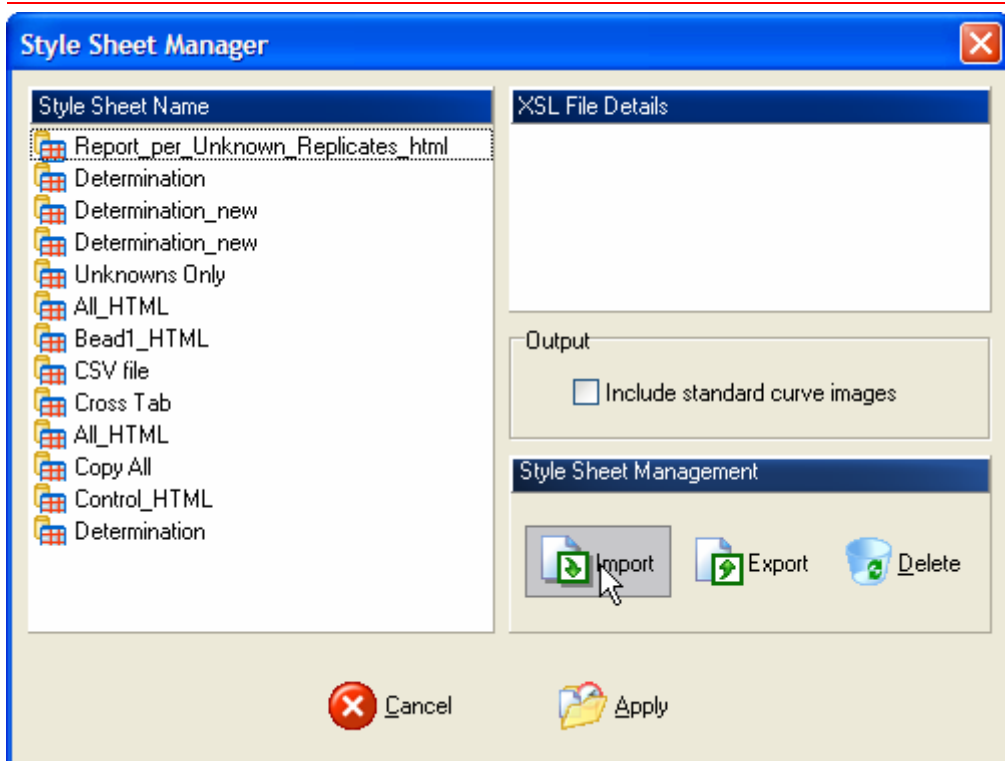

Figure 8.19 Import custom report stylesheet
3. Click “Import” to load a stylesheet into manager(Figure 8.19).